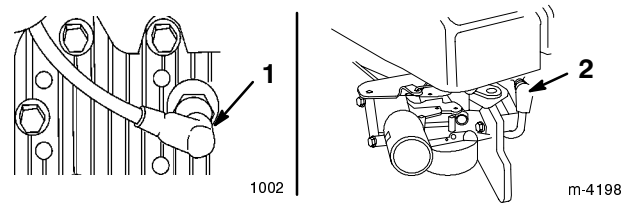

Figure 30
2. Disconnect the wire from the spark plug (Fig. 30).
2. Remove the spark plug (Fig. 30).
- Remove the spark plug (Fig. 30) and spin the engine rapidly using the starter to blow the excess oil from the cylinder.